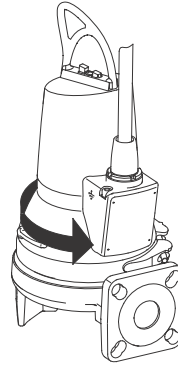

Fig. 8 Jerk direction
3. If connected correctly, the pump will jerk in the opposite direction of the direction of rotation. See fig. 8.